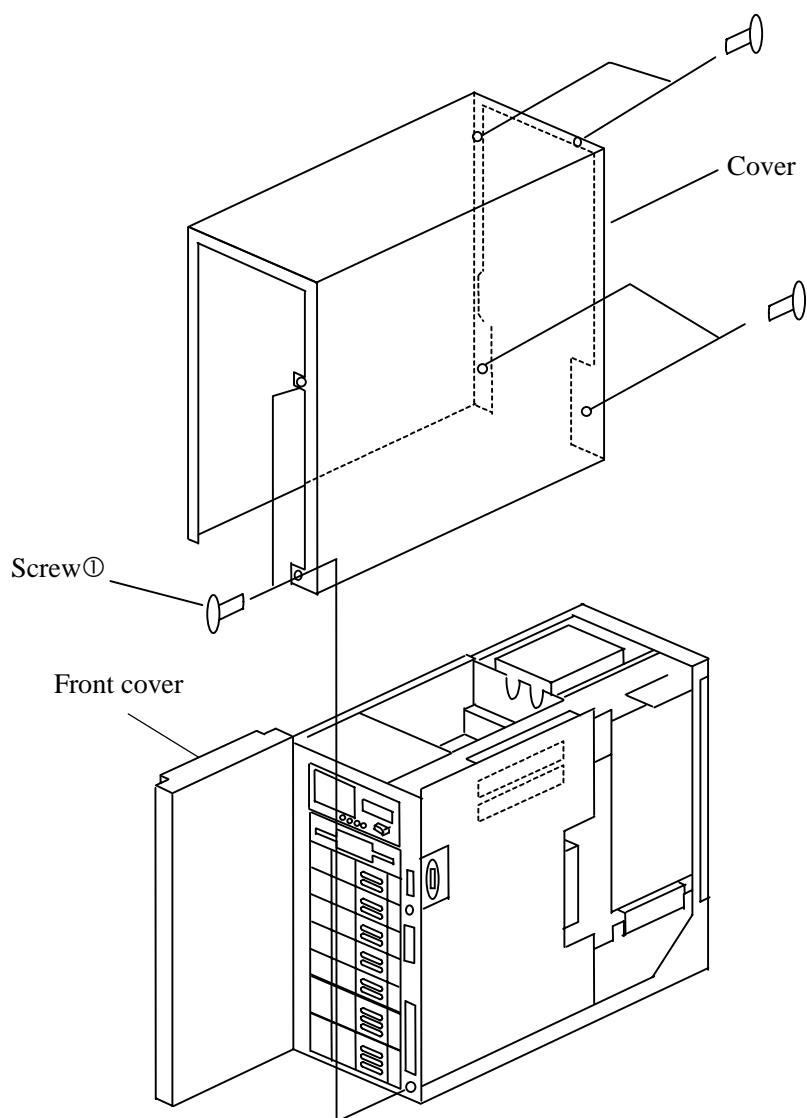

Figure 4.2.2 Attaching/Removing the Front Cover
(1) Removing procedures (See Figure 4.2.2.)